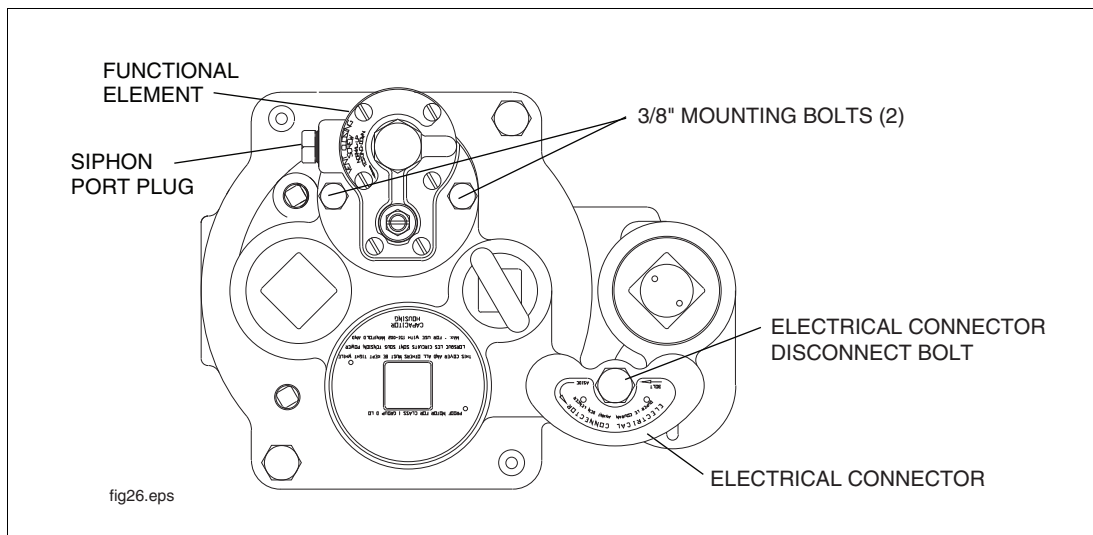

Figure 35. Packer With Functional Element
2. Back out the electrical connector disconnect bolt (see Figure 35).
1. If siphon tubing is connected to the functional element, disconnect the siphon fitting from the old functional element (see Figure 35).